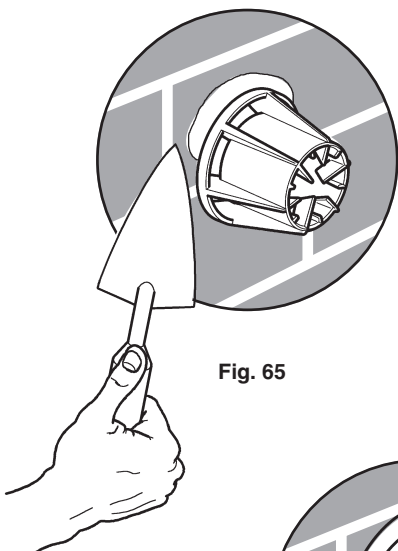

Fig. 65
9. Make good between the wall and the air duct inside and outside the building if the internal fitting kit has not been used (Fig. 65).